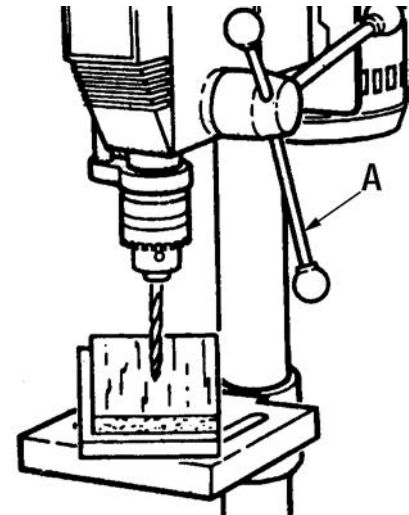

FIGURE 22
Pull down the feed handles (A) Fig.22 with only enough effort to allow the drill to cut. Feeding too slowly might cause the drill to burn...feeding too rapidly might stop the motor...cause the belt or drill to slip... tear the workpiece loose or break the drill bit.
Lock the table to the column in a position so that the tip of the drill is just a little above the top of the workpiece. Always place a piece of back-up material (wood, plywood) on the table underneath the workpiece. This will prevent splintering or making a heavy burr on the underside of the workpiece as the drill breaks through. To keep the back-up material from spinning out of control, it must come in contact with the left side of the column, as illustrated in Fig.22.